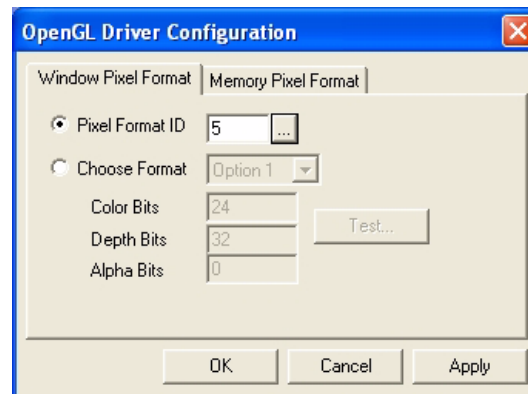

Figure 5-41: OpenGL Driver Configuration dialog box
4. In the OpenGL Driver Configuration dialog box (figure 5-41), select Pixel Format ID and enter this number.